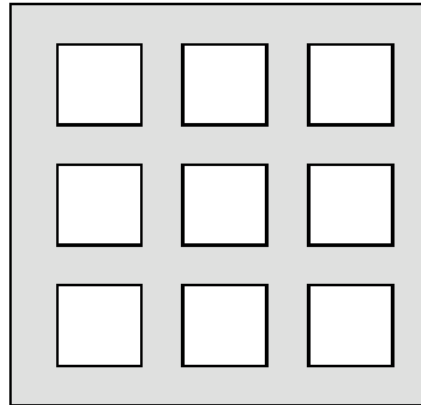

Figure 19: Solder paste application on exposed pad
3. For the PCB thermal pad, solder paste should be printed on the PCB by designing a stencil with an array of smaller openings that sum to 50% of the QFN exposed pad area. Solder paste should be applied through an array of squares (or circles) as shown in Figure 19.